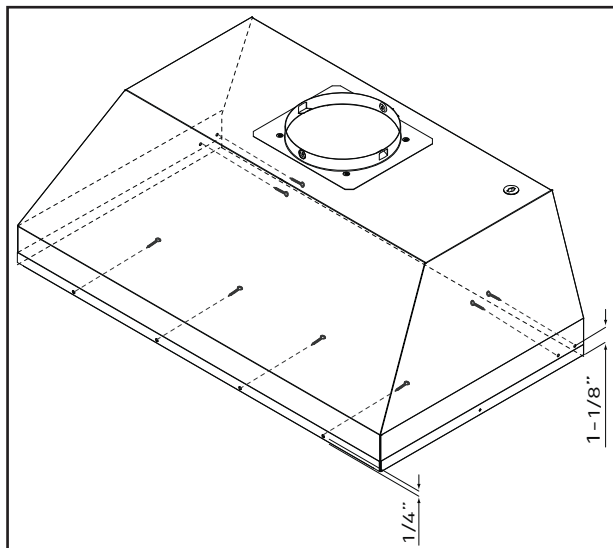

FIG. 3
4. Lift insert into bottom opening of cabinet and secure to interior of cabinet using (8) #8 x 1/2" stainless steel screws; (4) screws in the front and (4) screws in the sides. FIG. 3. **WARNING: Make sure the surface you are securing the insert to is capable of holding the weight of AK92.** Failure to do so may cause personal injury or damage to cooking surface or counter.